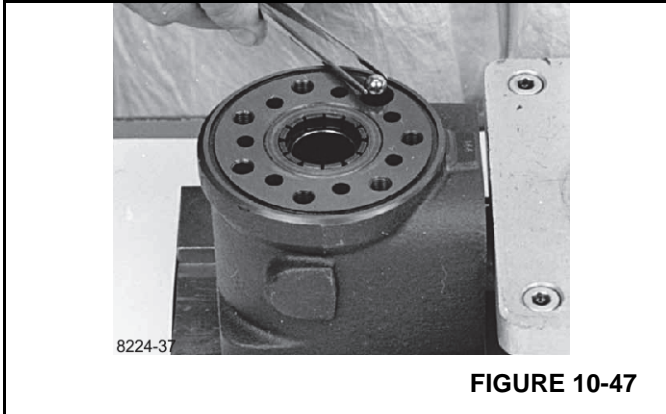

FIGURE 10-47
- 16. Turn the steering unit until the bore is vertical again. Put the check valve ball into the hole shown (Figure 10-47).